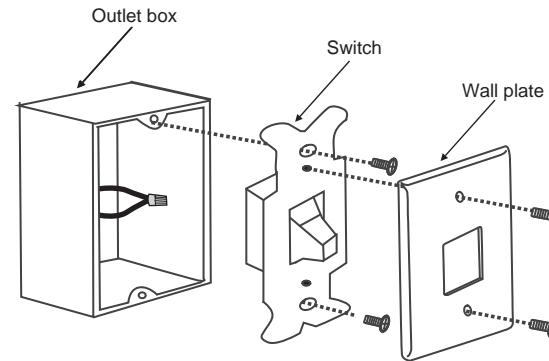

Fig. 19
Step 1. Remove the existing wall plate and the old switch from the wall outlet box. Wire nut the BLACK leads (hot) together and push back inside the outlet box. (Fig. 19)